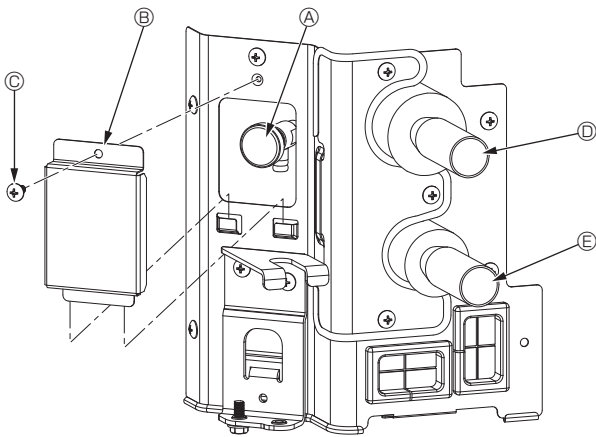

Fig. 7-1
7.2.2. The air vent valve of indoor unit (Fig. 7-1)
- ① Remove the air purge valve cover.
- ② Hold "A" with your fingers and twist it 3–4 times.
- ③ Air purge valve
- ④ Air purge valve cover (Tightening torque: 1.3 ± 0.3 N·m, 1.0 ± 0.2 ft·lbs)
- ⑤ Screw
- ⑥ From HBC unit (Inlet)
- ⑦ To HBC unit (Outlet)